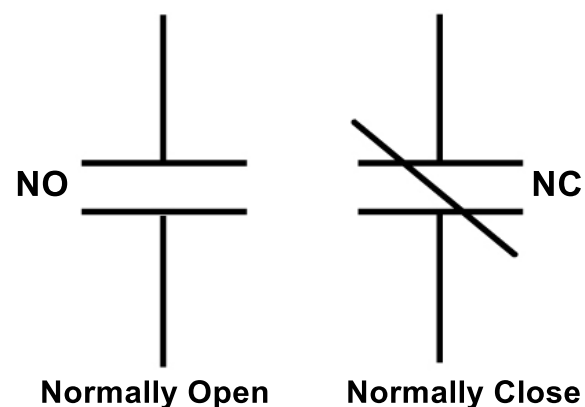

Fig. 1.2-10 Contacts Symbols
Contacts symbols (Fig. 1.2-10) are used to indicate an open or closed path for current flow. Contacts shown as normally open (NO) means that the contacts are open when the relay is de-energized. Normally closed (NC) means that the contacts are closed when the relay is de-energized.